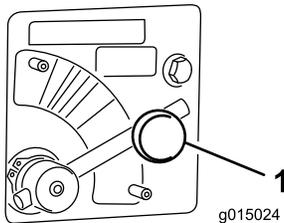

Figure 33
1. Loosen the knob securing the spinner valve lever (Figure 33).
2. Rotate the spinner valve lever to the desired color (Figure 33).
Move the spinner valve lever to the **BLUE** section (MAX SPEED) (Figure 33). Fully turned clockwise the lever should be horizontal.